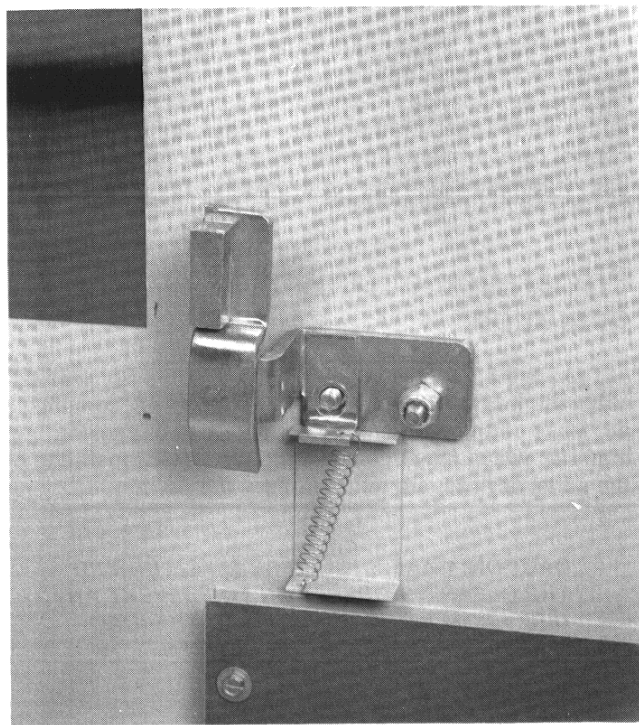

Figure 53. Interlock defeater bolt — rear view from inside of door.
3. Turn the left-hand bolt 1/4 turn counterclockwise. Figure 53 shows the bolts from the inside. The door may then be opened.